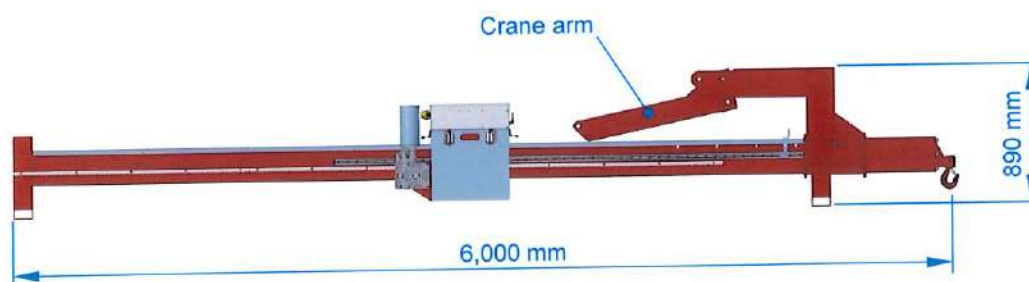
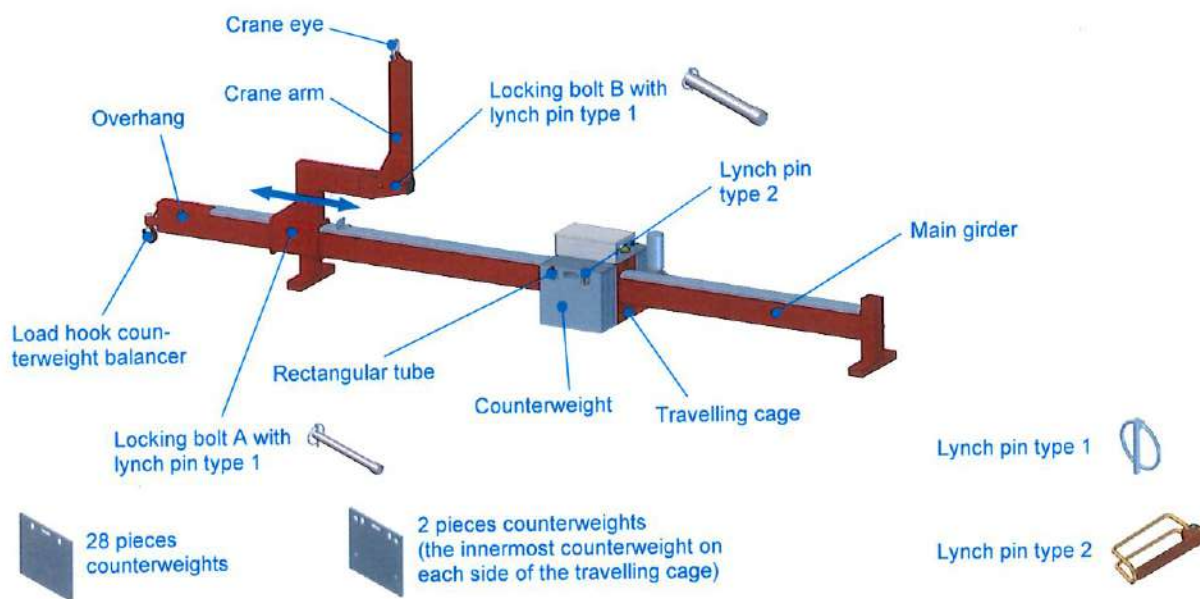

Fig. 4: Transport and storage of the counterweight balancer
Fig. 9: Assembled counterweight balancer
2. Bring the counterweights in the position shown in Figure 4.
4. Fold the crane arm in the position shown in Figure 4.
- ⇒ If the crane arm is in transport position (s. Fig. 4), fold it into the position shown in Figure 9 by performing the following steps:
1. Fold the crane arm into the position shown in Figure 9.
1. Remove the four lynch pins type 2 (s. Fig. 9).